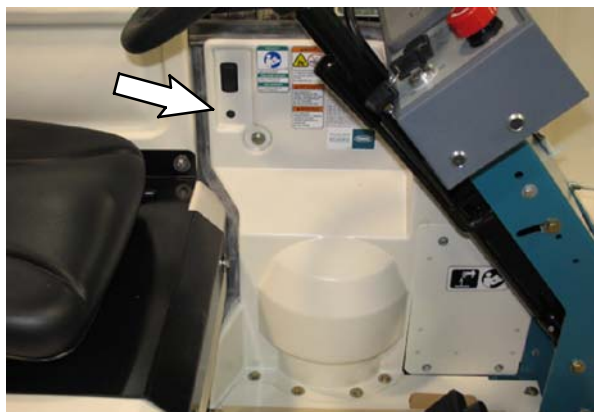

FIG. 3
4. Remove the motor cover panel from the operator compartment. Set the hardware and panel aside. Refer to Fig. 3.